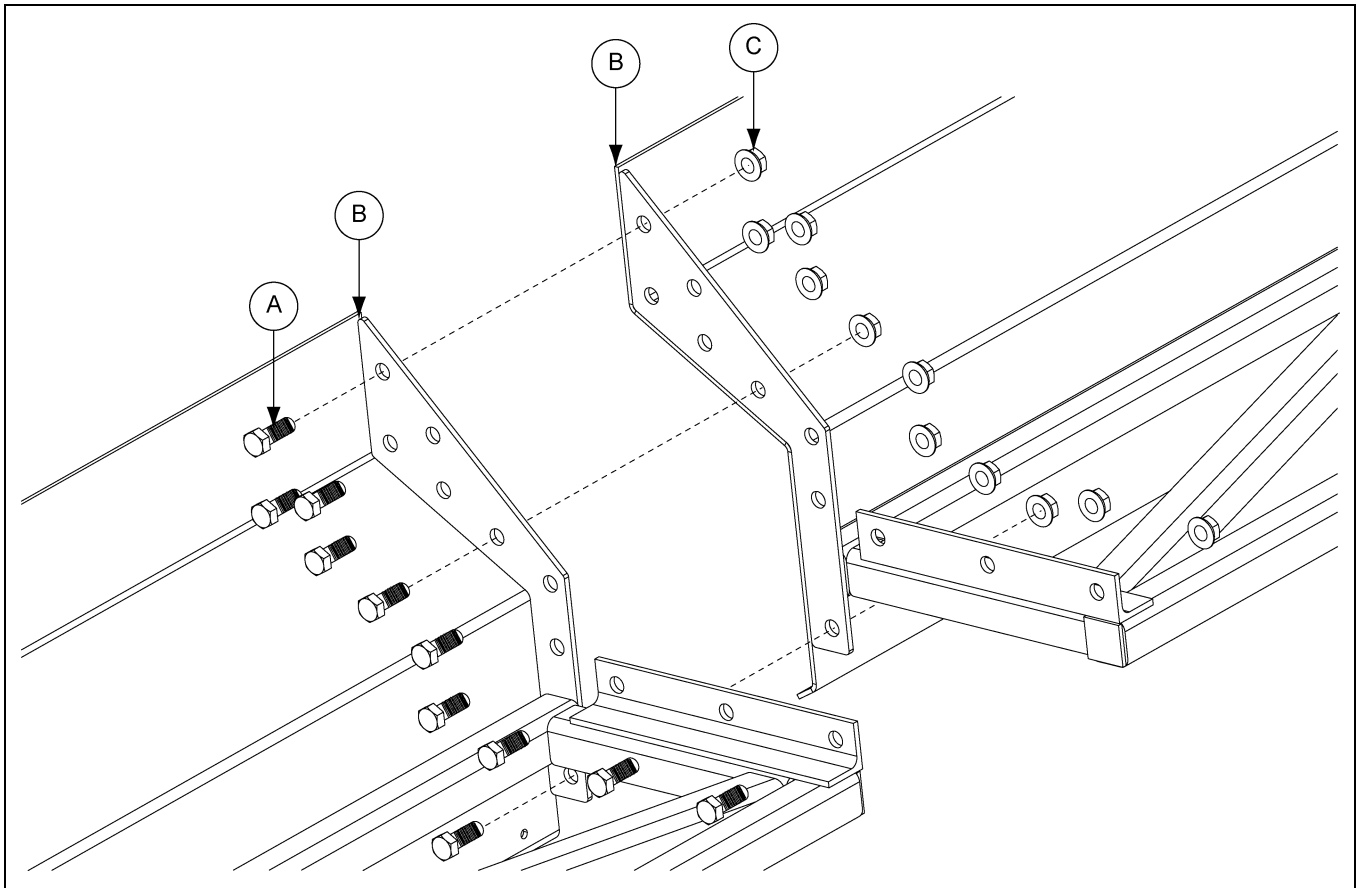

Figure 4N 12" Sweep Shield Connection
1. Attach sweep shields (B) together using hex bolts (A) and flange nuts (C). (See Figure 4N.)